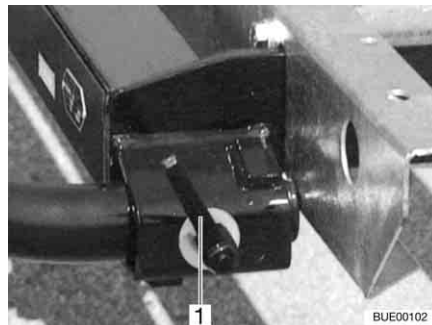

Fig. 3 Quick closure
- Insert the supports on the left and on the right into the holders on the frame and secure them with a quick closure (Fig. 3,1).
- Open the quick closure (Fig. 3,1) and pull the support from the holders on the frame.